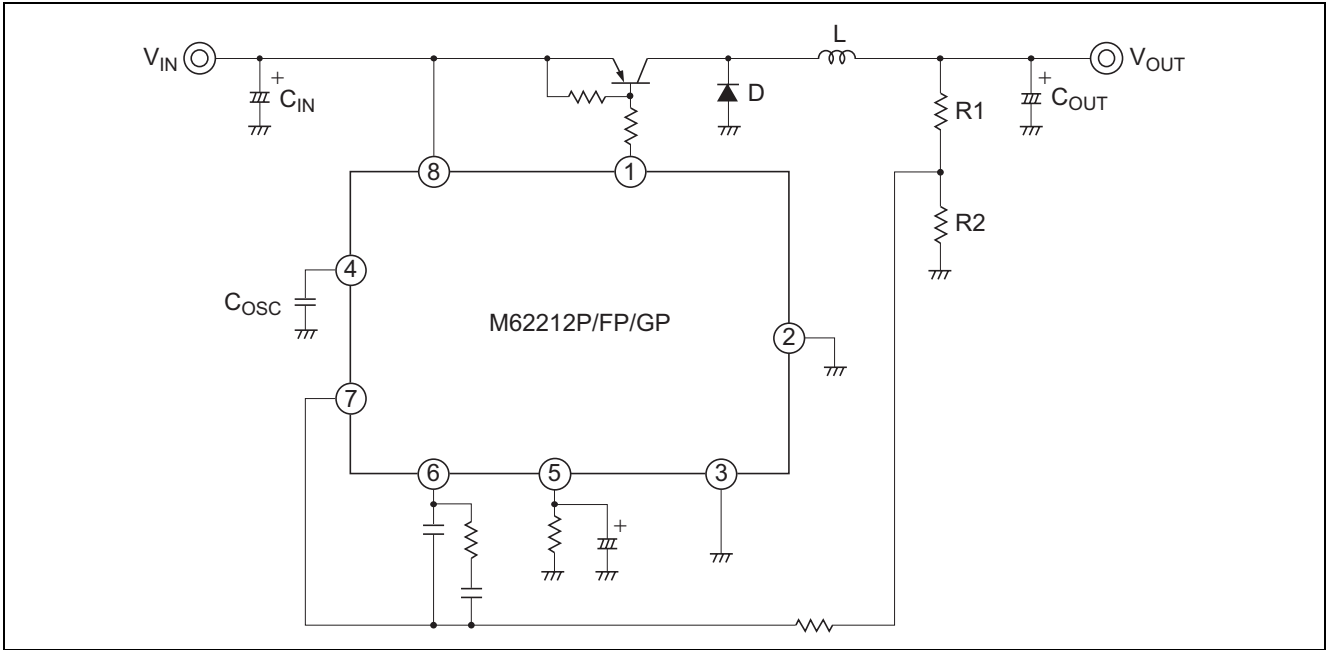

Figure 1 STEP-DOWN Converter with Current Buffer Transistor
1) Soft start (The peripheral circuit is shown in Figure 1)